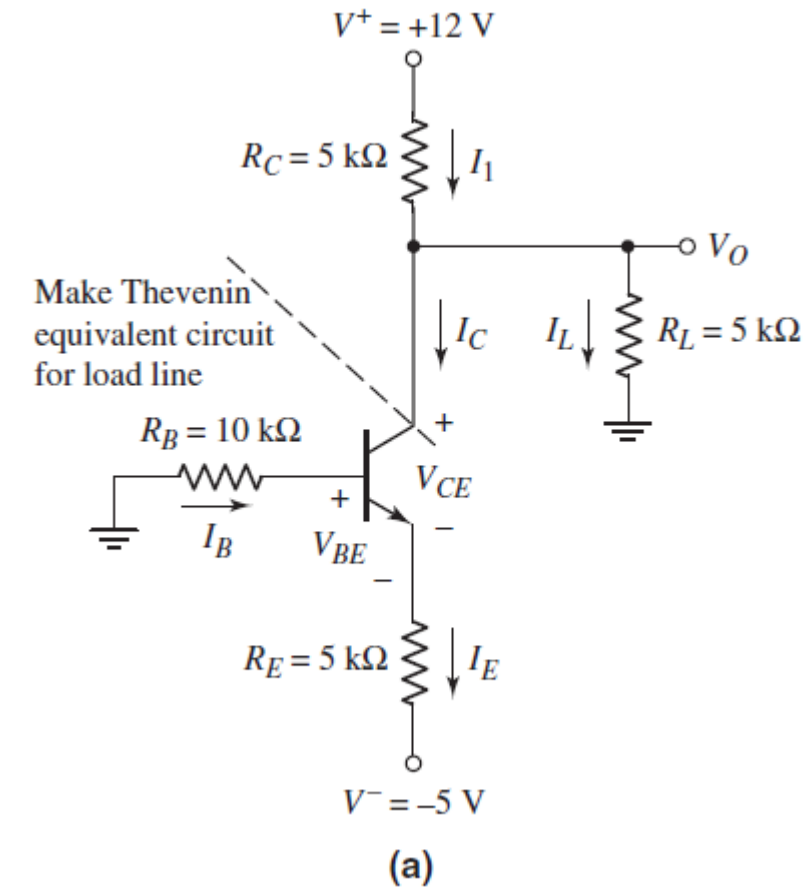

Figure 5.38
- The equivalent circuit is shown in Figure 5.38(c).